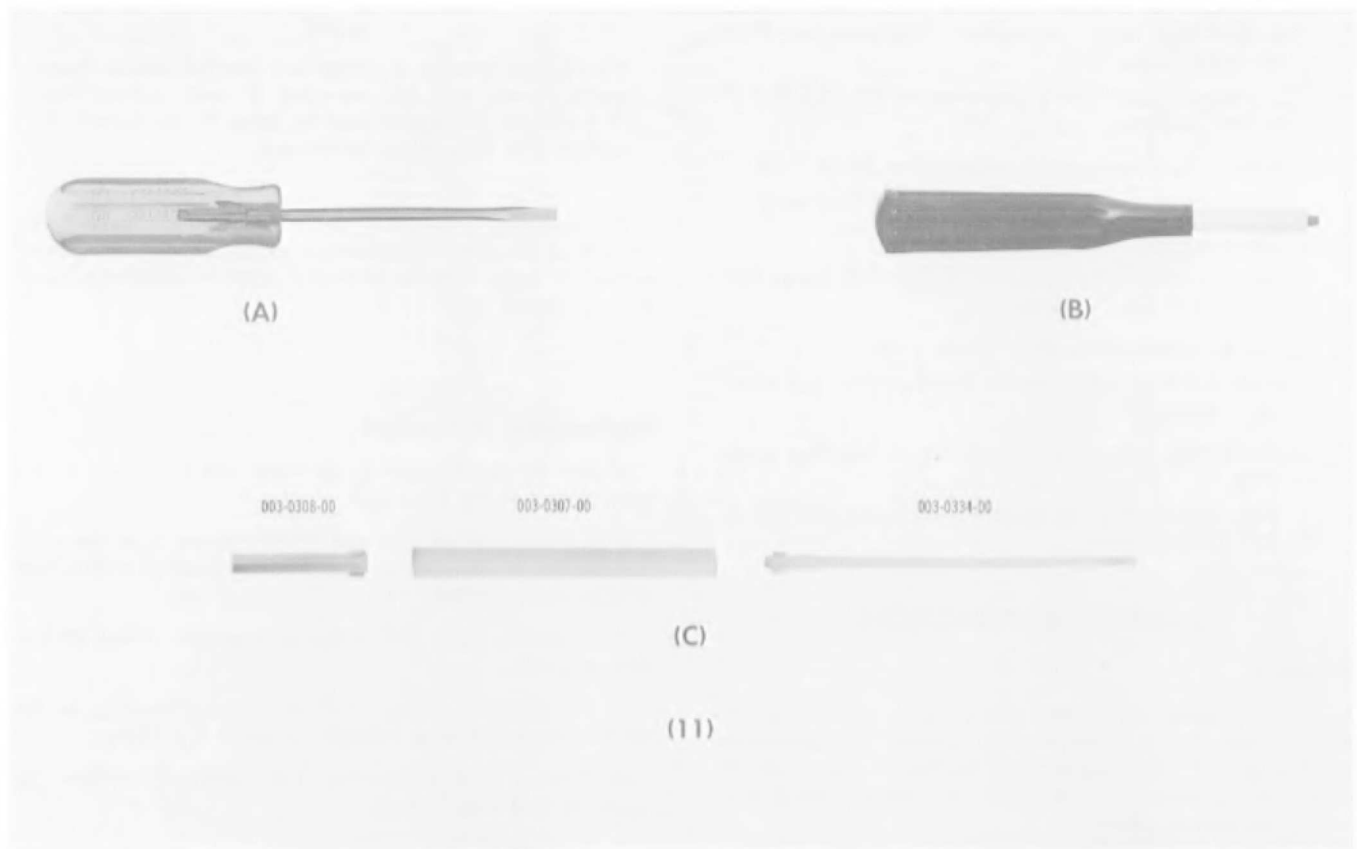

Fig. 7-2. Adjusting tools required for calibrating the Type 1A2.
11. Adjustment tools. (See Fig. 7-2).